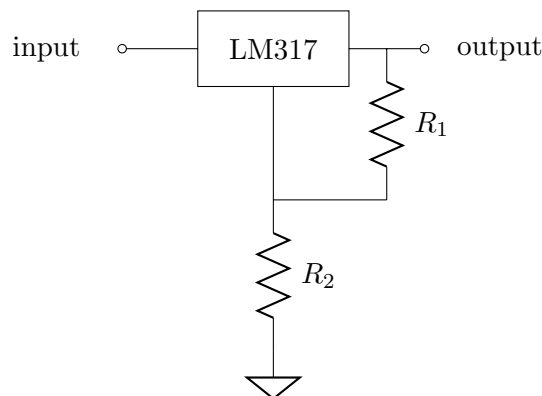

Figure 2: LM317 linear regulator circuit.
- For the circuit of Fig. 2, with sing an input voltage of 9V and $R_1=510\ \Omega$, what's the value of R_2 such that the output voltage is 5 V? What is the efficiency of the regulator in this case? “LM317” refers to the Texas Instruments LM317 voltage regulator IC. You should be able to find its datasheet online.